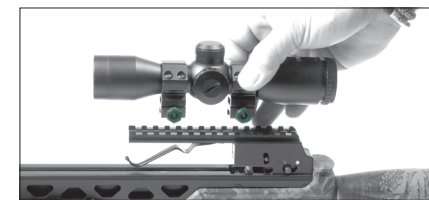

FIGURE 8
2. Align the scope rings with the slots on the sight bridge picatinny rail and tighten the mounting screws (Fig. 8).